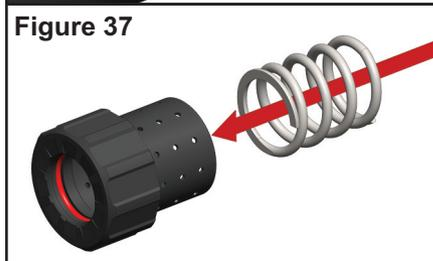

Figure 37
1. Place the driving spring in the bore of the piston housing. See Figure 37.